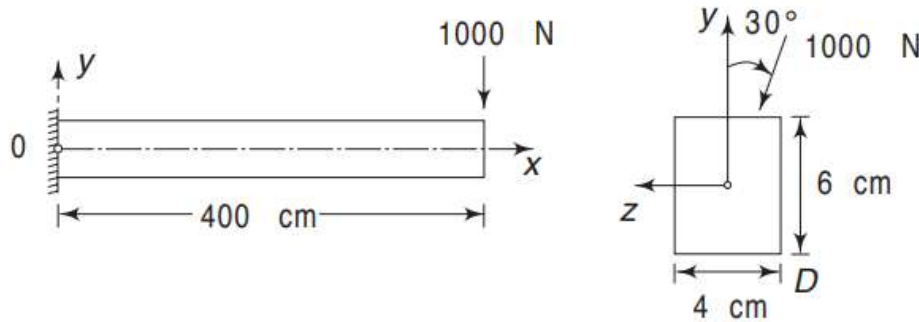

Figure- 2
4. A cantilever beam of rectangular section is subjected to a load of 1000 N, which is inclined at an angle of 30° to the vertical. What is the stress due to bending at point D (Figure-2) near the built-in-end? 15 M